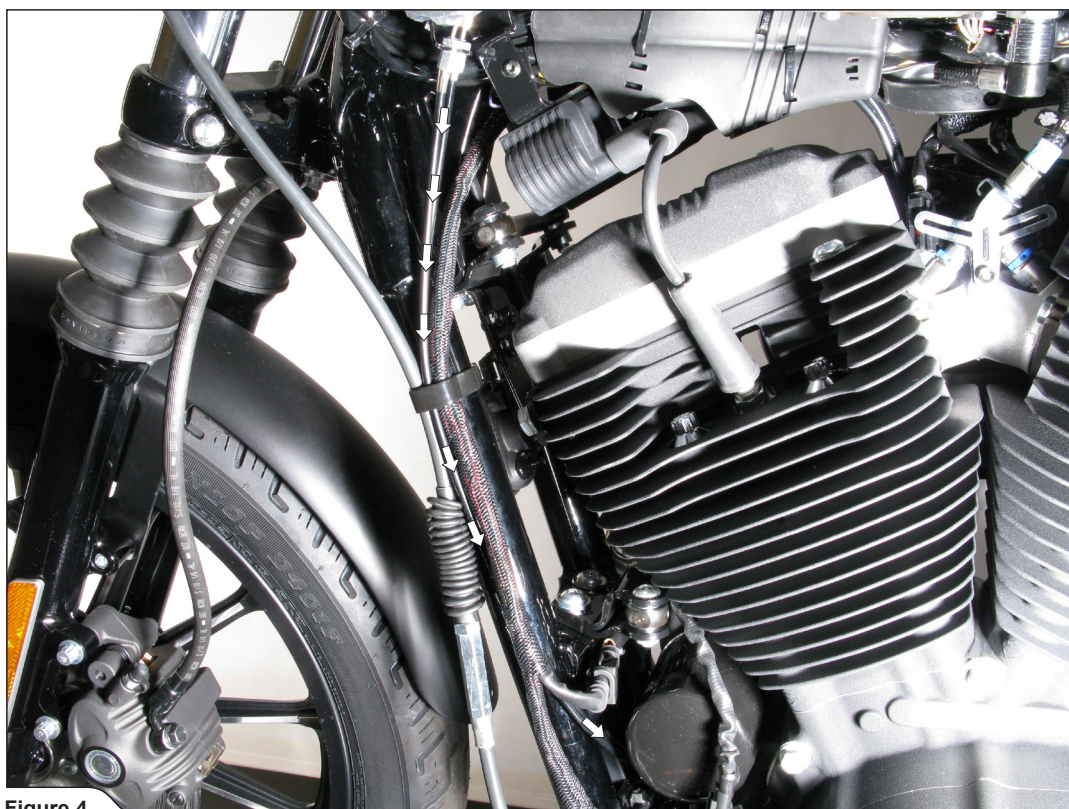

Figure 4
5. Direct and secure (use tie wraps from installation kit) the switch cables to the exhaust valves, as shown (**Figure 4, 5**).